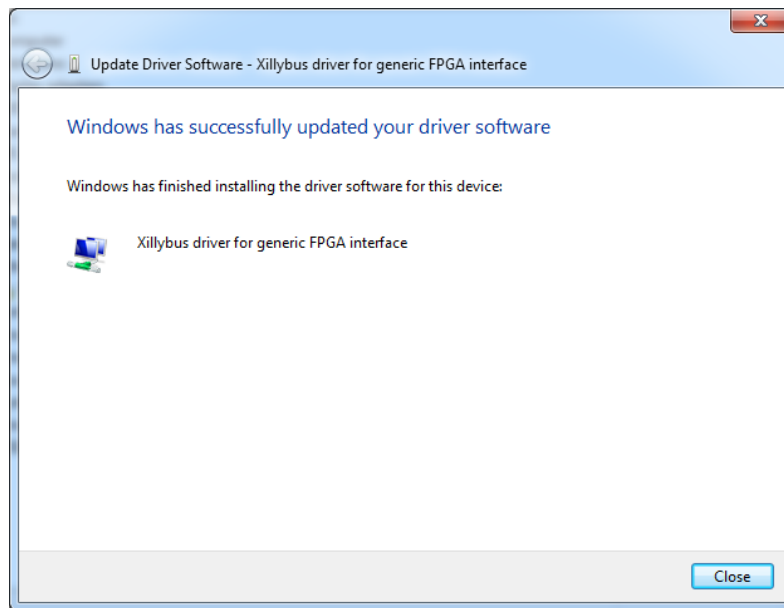
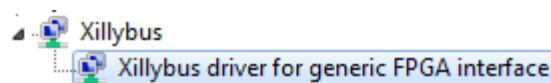

Figure 67 Successful LimeSDR-PCIE installation
Figure 68 Device manager window after installation
9. After successful installation (Figure 67) “Xillybus driver for generic FPGA interface” will appear under Xillybus device (Figure 68).